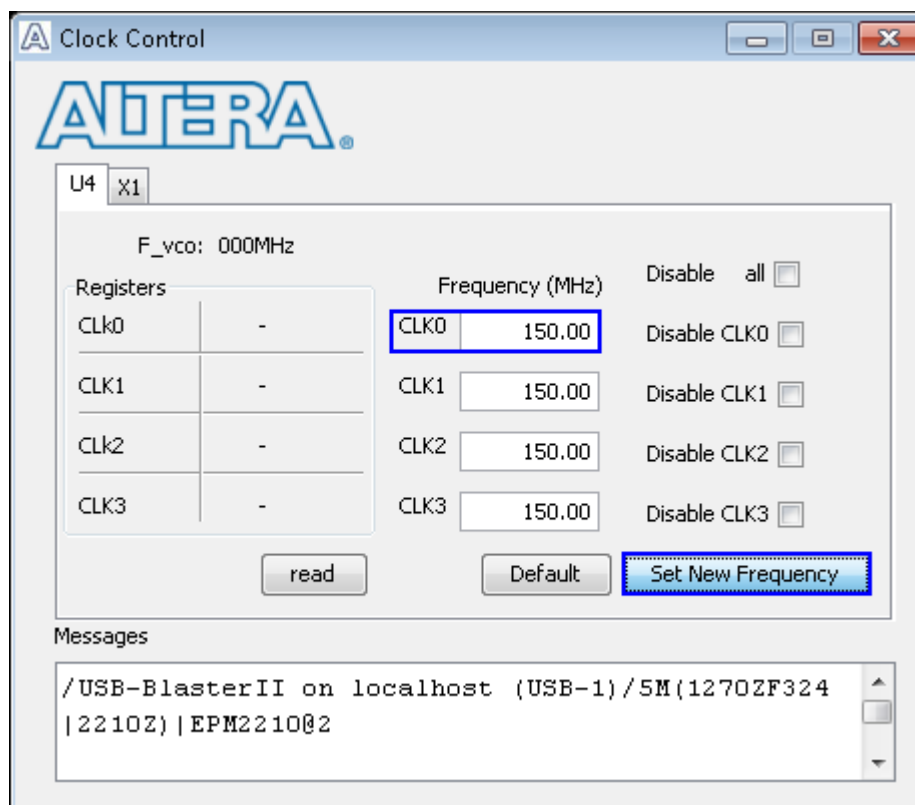

Figure 1-4 Set programmable clock = 150 MHz by Clock Control Application
- Open “Clock Control” application which is provided by Altera for ArriaV GX Starter board, change CLK0 value to be 150 MHz and press “Set New Frequency” button. Then, wait until clock programmable complete. After this step, reference clock will be 150 MHz for SATA interface, as shown in Figure 1-4.